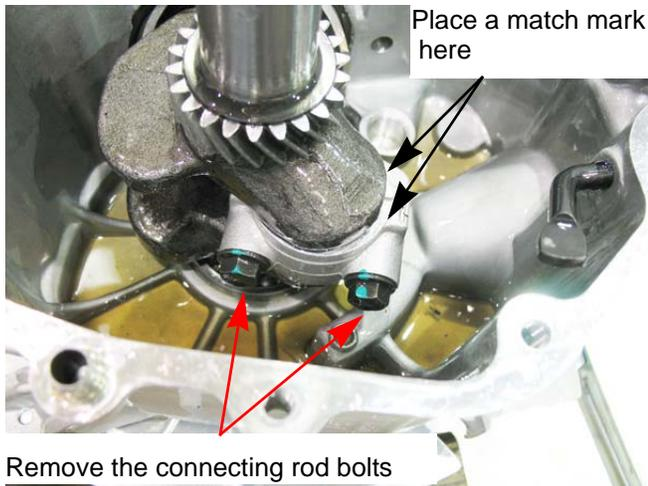

Figure 10.5
13. Remove the connecting rod cap using a 10mm wrench. See Figure 10.5.